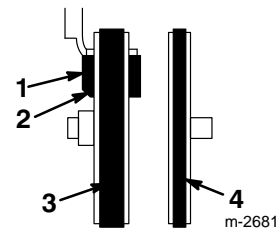

Figure 30
15. Ensure that the brake pad is properly installed on the brake arm. The angled cut-off on brake pad must be positioned as shown in Figure 30.
12. Make sure that the brake pad is properly installed on brake arm. The angled cut-off on brake pad must be positioned as shown in Figure 30.